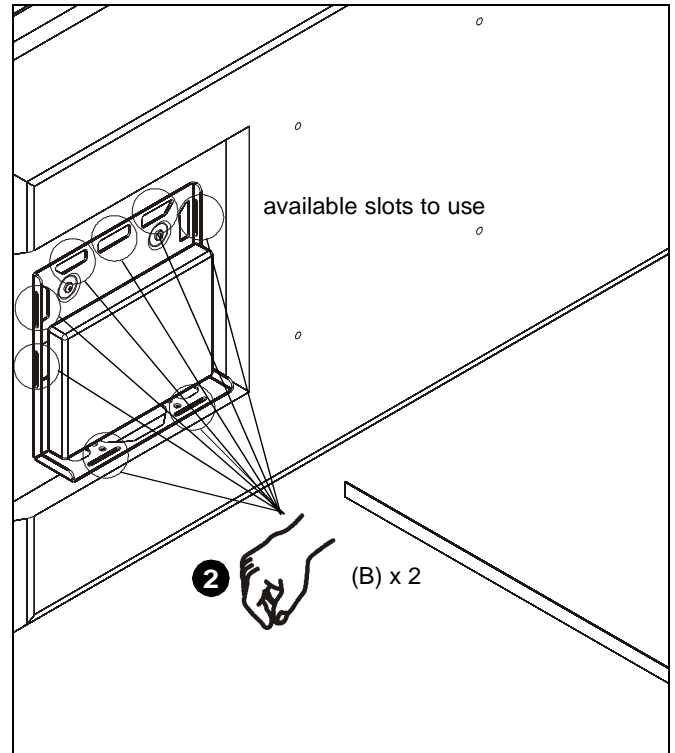

Figure 5
2. Use two Velcro straps (B) to secure media player to bracket by threading the straps through the various slots on the bracket. (See Figure 5)